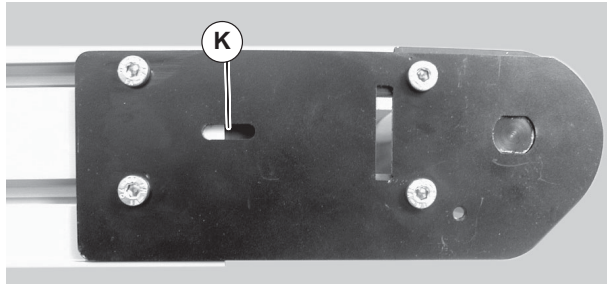

Figure 10
- Extend head plate assembly until proper tension in the belt is achieved. If proper tensioning can not be obtained before the belt life indicator is all black (Figure 10, item K) the belt must be replaced.